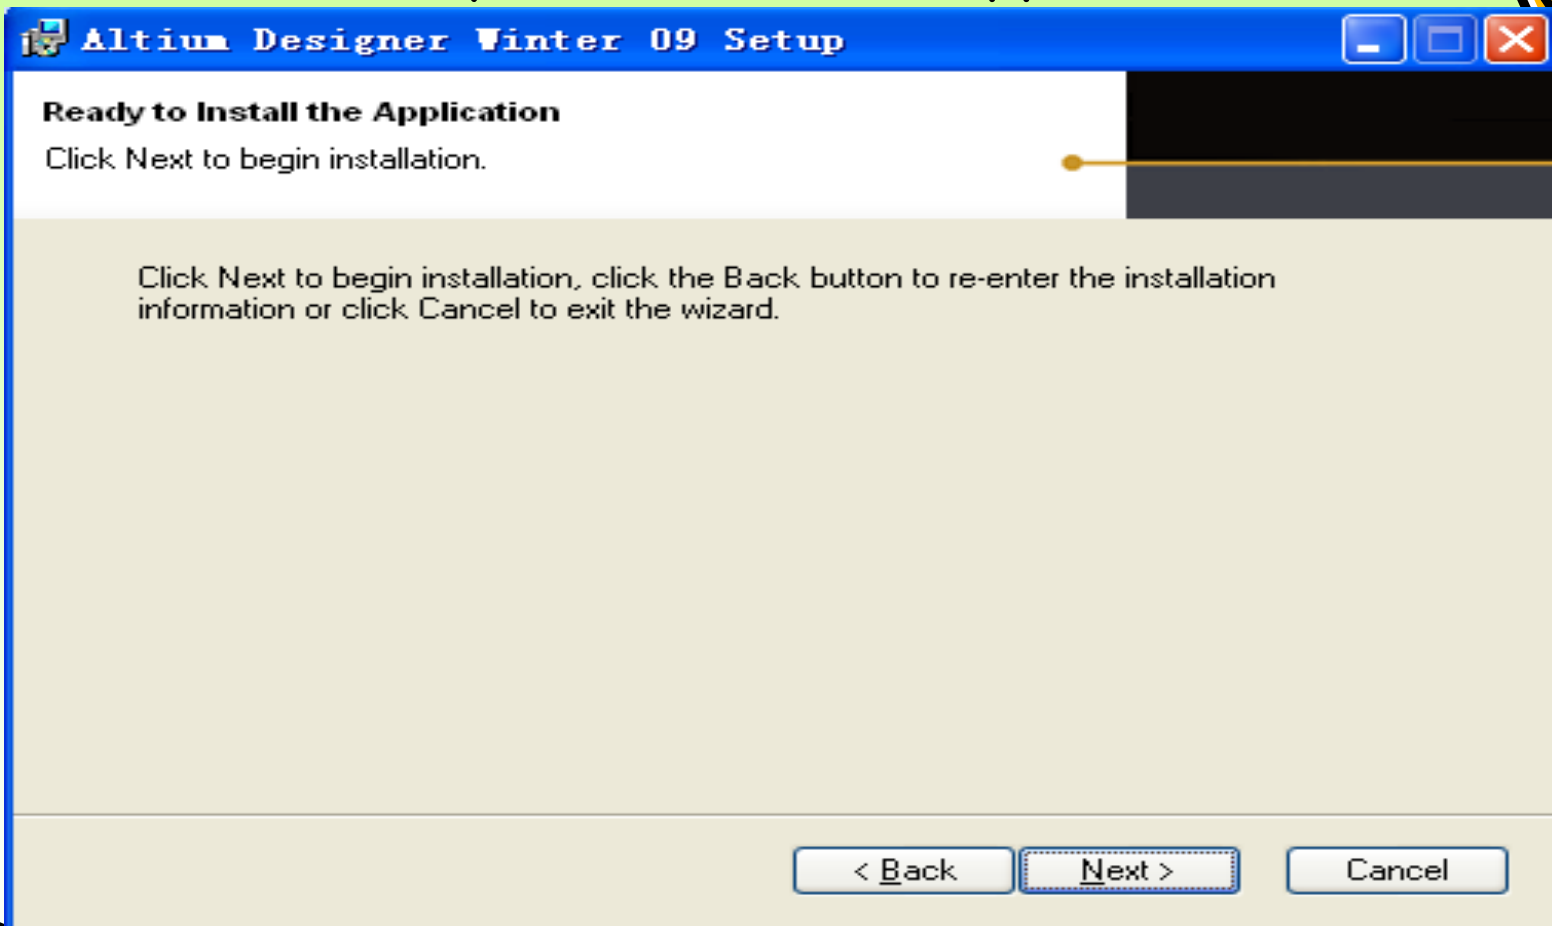

图1-8 “Ready to Install the Application”视图
(8) 如果需要安装板级的库文件，就勾选上图的“Install Board-level Libraries”对话框，点击“Next”按钮，出现如图1-8的“Ready to Install the Application”视图。